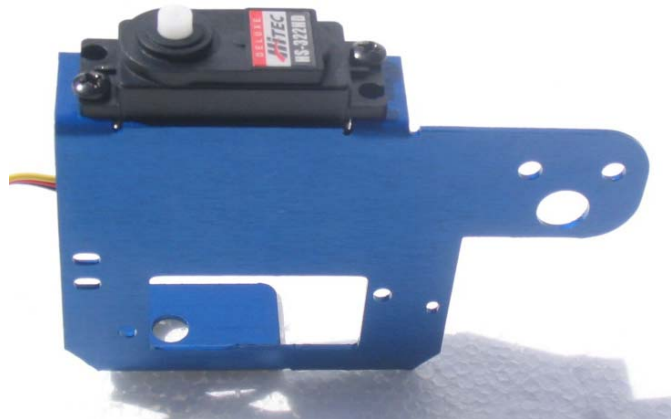

Figure 2: Mounting Servos
1. Using (2) #6 - 3/8" screws lock washers and nuts, install the horizontal servo (the servos with the riser tabs intact) to the top of the servo holder as shown in figure 2. The servo gear head should always be orientated towards the straight end of the servo holder.